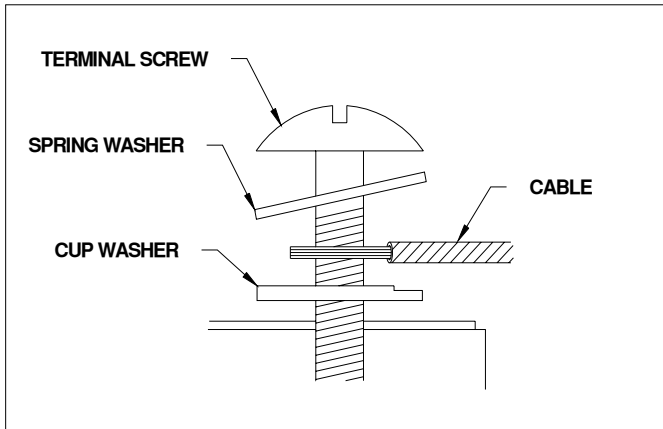

Figure 4. Ring or Spade Terminal Connectors
- C. The wire used to interconnect the solar modules may be single or two conductors, from 14 AWG (2.08 mm2) up to 10 AWG (5.26 mm2) gauge stranded copper wire, in a "SUNLIGHT RESISTANT" jacket UF cable. This cable is suitable for applications where wiring is exposed to the direct rays of the sun. The maximum and minimum outer diameters of the cable that may be used with the cable connector are 8 mm and 6 mm respectively (Figure 4).